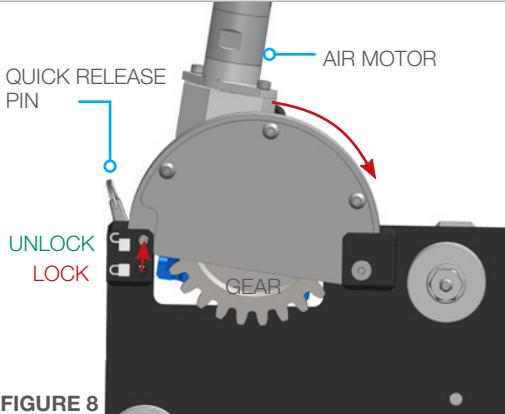

FIGURE 8
- Remove the **Quick Release Pin** from the **locked** position, pull back on the air motor to lift the gear, and insert the **Quick Release Pin** into the **unlocked** position. This will allow the **Vertical Drive Carriage** to slide onto the rail without pneumatic power. Center the carriage on the vertical rail, pull out the **Quick Release Pin**, let the gear drop into place and verify the gear is engaging the slotted rail correctly. Replace the **Quick Release Pin** into the **locked** position. (**Figures 8 & 9**)